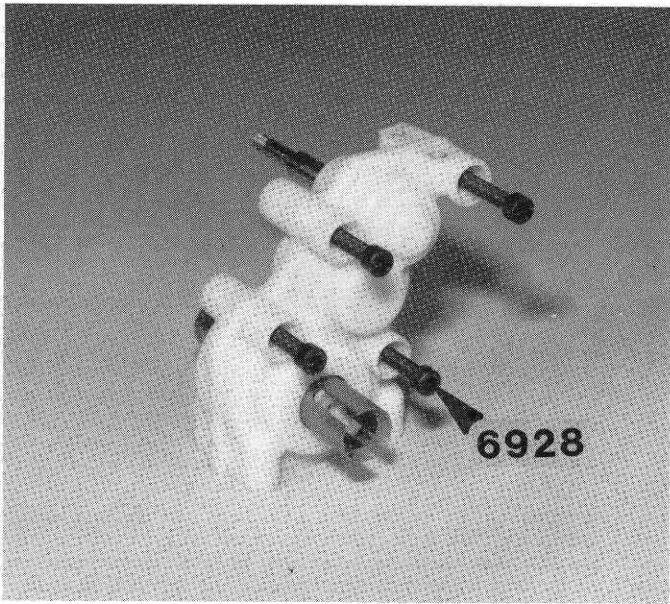

Fig. 56
□ **Fig. 56** From Bag F put the four #6928 1" Allen head case bolts into the case from the left hand side. You'll have to screw them in. Screw in the bolts so they extend about 1/8" on the other side. (Note: #6567 is a complete replacement screw set for the Stealth transmission.)